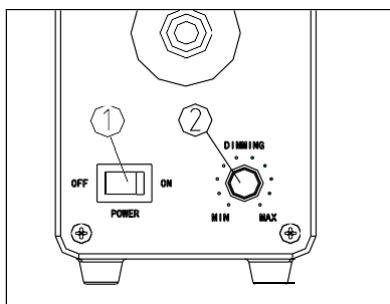

Fig. 13
- 2) Adjust the light adjustment knob ② until the illumination is comfortable for observation. Rotate the light adjustment knob clockwise to raise the brightness. Rotate the light adjustment knob counterclockwise to lower the brightness (See Fig. 13).